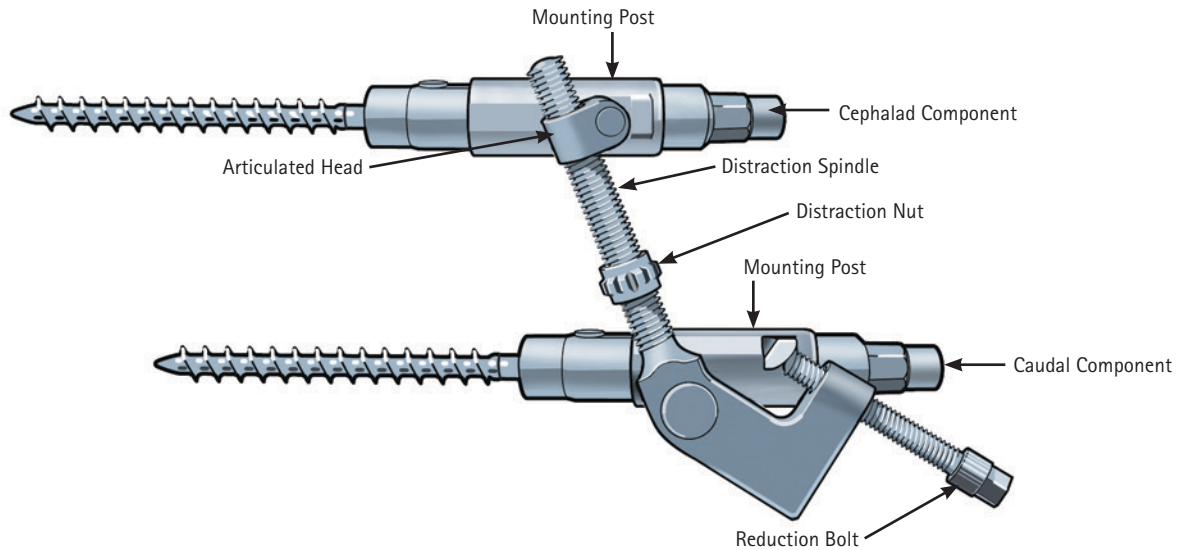

Fig. 8
The instrument (Fig. 8) has two components: a right and a left. Each has two pedicle screw attachments: one attaches to the cephalad vertebral screw that will be repositioned, and the other to the caudal vertebral screw.
- Attach the cephalad component first (Fig. 8). Insert the mounting post into the tulip of the screw and tighten (Fig. 9) enough to engage *only* 2-3 threads into the screw body. Final tightening will be completed once all four components are in place.
- Ensure that the articulated head (Fig. 8) is positioned inferiorly and insert the distraction spindle (caudal component) into the articulated head of the cephalad component. At the same time, insert the mounting post into the tulip of the pedicle screw of the caudal vertebra and tighten enough to engage *only* 2-3 threads into the screw body.